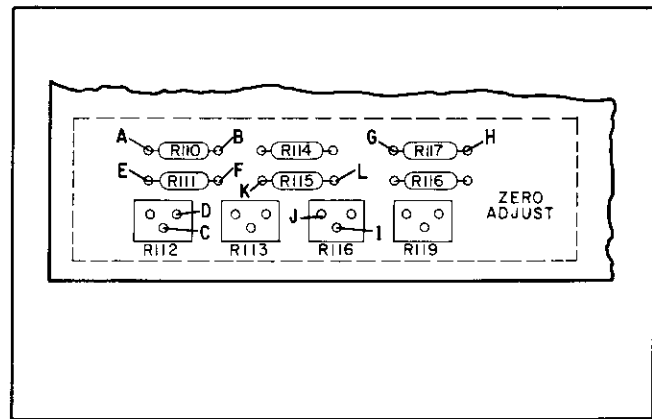

Figure 5-9. Zero Adjust Section of Main Circuit Board
- Connect decade resistance box between pads in zero adjust section of A1 main circuit board that are marked "A" and "B" in Figure 5-9. (These pads are for R110).
- Solder a jumper between pads in zero adjust section of A1 main circuit board that are marked "C" and "D" in Figure 5-9.
- Connect decade resistance box between pads marked "E" and "F" in Figure 5-9. (These pads are for resistor R111).
- c. Connect decade resistance box between pads in zero adjust section of A1 main circuit board that are marked "G" and "H" in Figure 5-9. (These pads are for R117.)
- b. Solder a jumper between pads in zero adjust section of A1 main circuit board that are marked "I" and "J" in Figure 5-9.
- c. Connect decade resistance box between pads marked "K" and "L" in Figure 5-9. (These pads are for R115.)